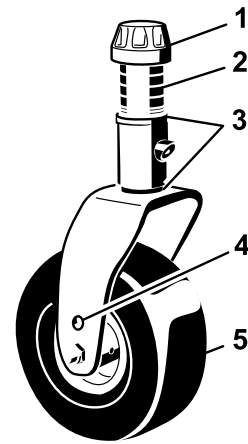

Figure 24
3. Remove the tensioning cap from the castor shaft (Figure 24), and slide the shaft out of the castor arm. Put 2 shims (1/8 inch [3 mm]) onto the castor shaft as originally installed. Slide the appropriate number of 1/2 inch spacers onto the shaft to get the desired height-of-cut.
4. Push the castor shaft through the front castor arm. Install the shims (as originally installed) and the remaining spacers onto the shaft. Install the tensioning cap to secure the assembly (Figure 24).